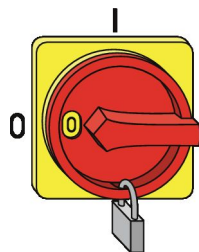

Fig. 9: Securing the mains isolator
2. ▶ Secure the mains isolator with a padlock (Fig. 9).